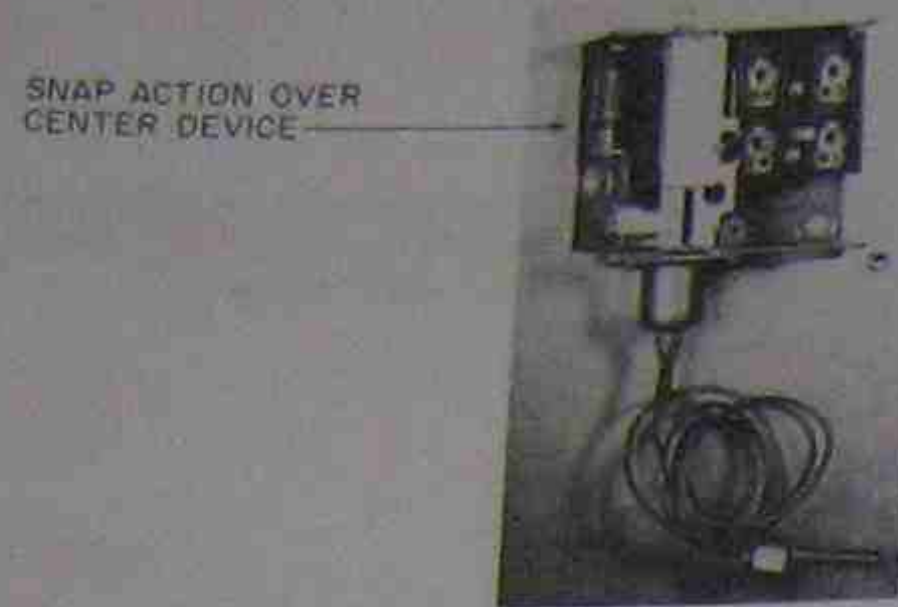

Figure 15-3. Snap action over center device. Photo by Bill Johnson
5. The electrical contacts either open or close with snap action on a rise in pressure, Figure 15-3.